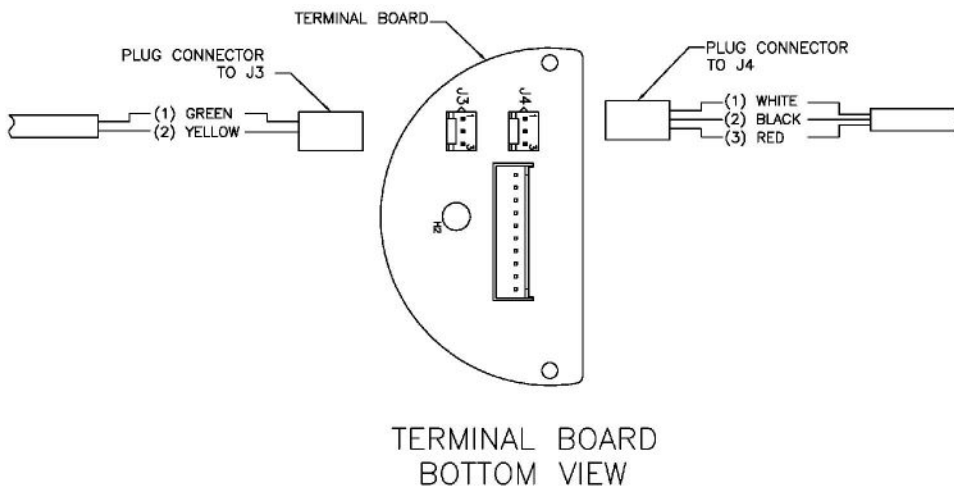

Figure 3-11
3. Locate J3 & J4 connectors on the bottom of terminal board and connect 2 plugs as shown in Figure 3-11.